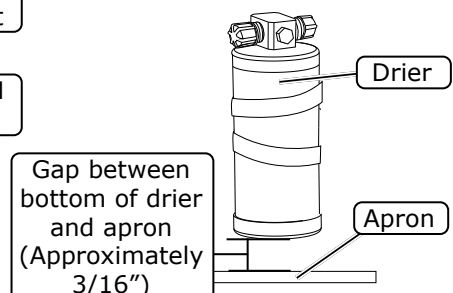

Figure 1
2. Install the drier bracket onto the passenger side of the core support using the (2) remaining OEM bolts. The drier assembly will install between the core support and the passenger side condenser bracket (See Photo 2, below). **NOTE: Do not fully tighten the (3) passenger side core support bolts at this time.**
3. Adjust the drier in the clamp so that it does not sit on the bottom of the apron. Leave a gap between the bottom of the drier and the apron (approximately 3/16"), and tighten the nut on the drier clamp just enough to keep the drier in place (See Figure 1, below). **NOTE: Do not fully tighten the drier nut at this time. Final adjustment of the drier is done after the #6 condenser/drier hardline is installed.**